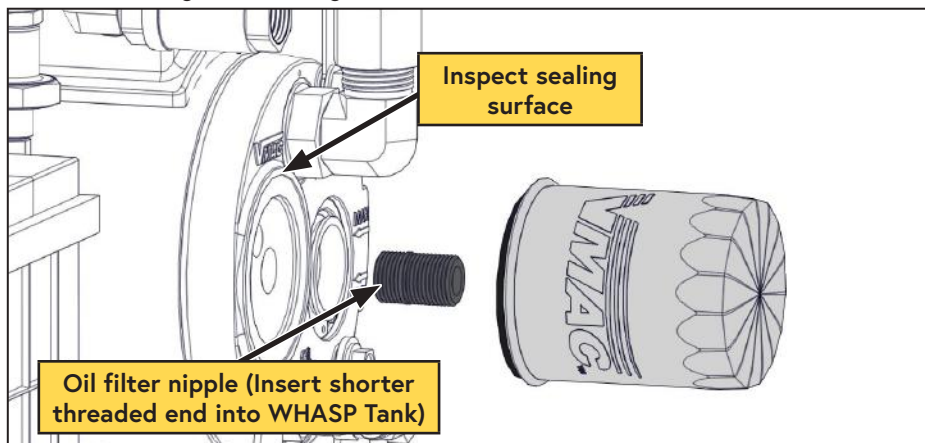

Figure 40 — Compressor oil filter
- ☐ *To reinstall the nipple, thoroughly clean the threads and apply Loctite 242 (blue) to the end with the short threads and replace it in the AOST (Figure 40).
- ☐ Clean the gasket sealing surface on the front of the tank and inspect it for damage. The surface must be free of old gasket material and smooth to ensure a good seal. (Figure 40).